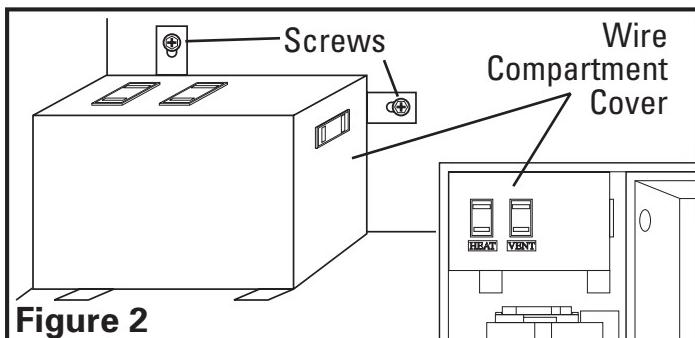

Figure 2
3. Remove the wire compartment cover by loosening the two screws holding the cover in place (Figure 2)